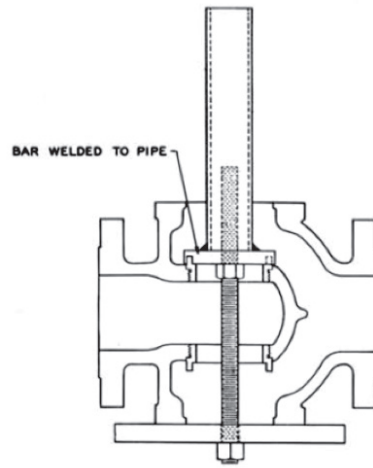

Figure 3
Threaded seat rings (15 and 16) are installed tightly at the point of manufacture and after years of service they are often difficult to remove. To facilitate removal, seat ring wrenches can be fabricated to engage the seat ring lugs and adapted to a shock wrench (see Figure 3). If the ring is exceptionally resistant to removal the application of heat or penetrating oil should be helpful.
- C. Install and tighten seat rings using fabricated wrench used for removal. (See Figure 3).